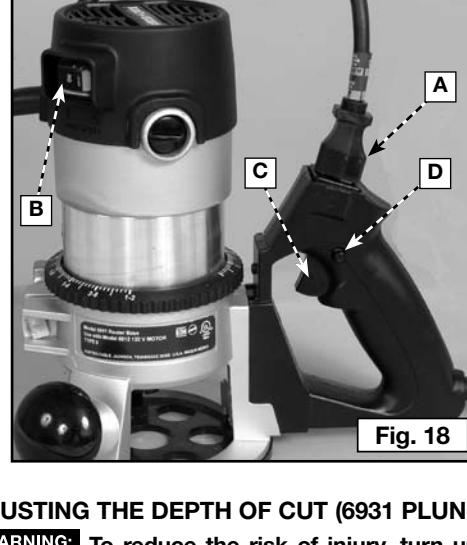

Fig. 18
To start the tool, move the rocker switch (B) Fig. 18 to the "ON" or "I" position. To stop the tool, move the rocker switch to the "OFF" or "O" position.